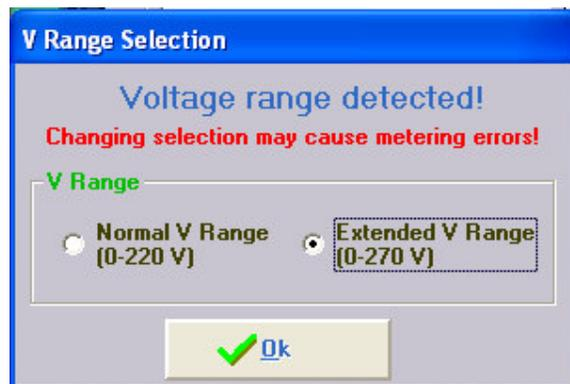

FIGURE 9-29: AC VOLTAGE RANGE SELECTION
- 9.3.2.7 Now a voltage range selection window will appear (Figure 9-29). This voltage range is closely related to the serial number of the relay. **The Enervista 650 Setup program automatically pre-selects the appropriate voltage range for the unit based on its serial number, showing the selection with a step line square over the proper option.** Click **OK** button. Do not use the other option (option not square signaled) since it is dedicated to other lower firmware versions.